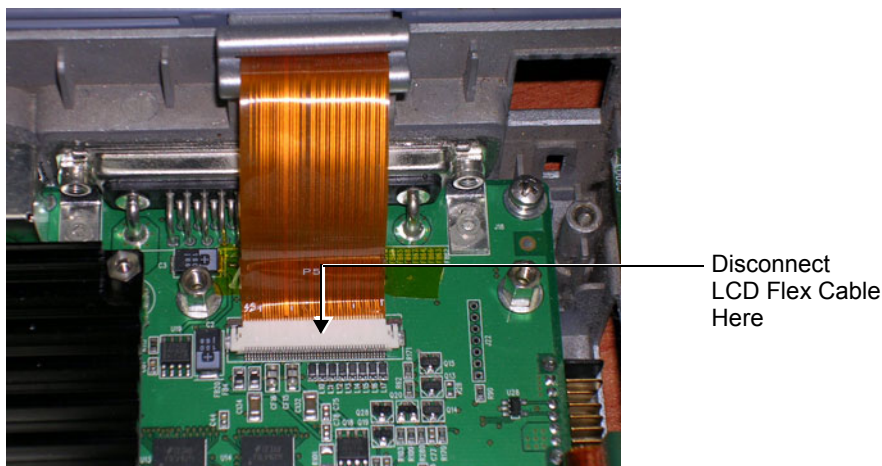

Figure 8-33 LCD Flex Cable Connected to BEP
- 2.) Disconnect the LCD Flex ribbon cable from the BEP, as shown in Figure 8-33.
- 5.) Reconnect the LCD flex cable to the BEP (refer to Figure 8-33 on page 8-28).